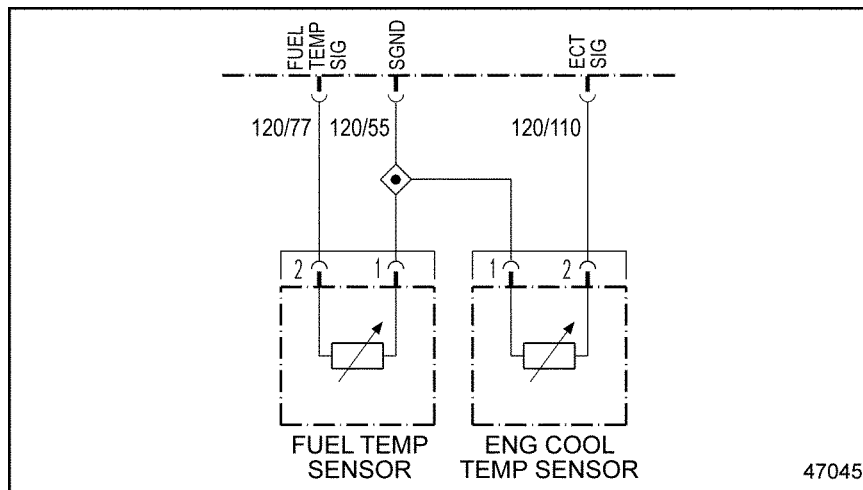

Figure 9-1 Engine Coolant Temperature Sensor
- [a] If the voltage is between 2.75 and 3.25 volts, repair the open circuit between pin 1 of the ECT Sensor harness connector and pin 73 of the 120-pin MCM connector (see Figure 9-1). Refer to section 9.3.2.1.
- [b] If the voltage is less than 2.75 volts, repair the open circuit between pin 2 of the ECT Sensor harness connector and pin 110 of the 120-pin MCM connector (see Figure 9-1). Refer to section 9.3.2.1.